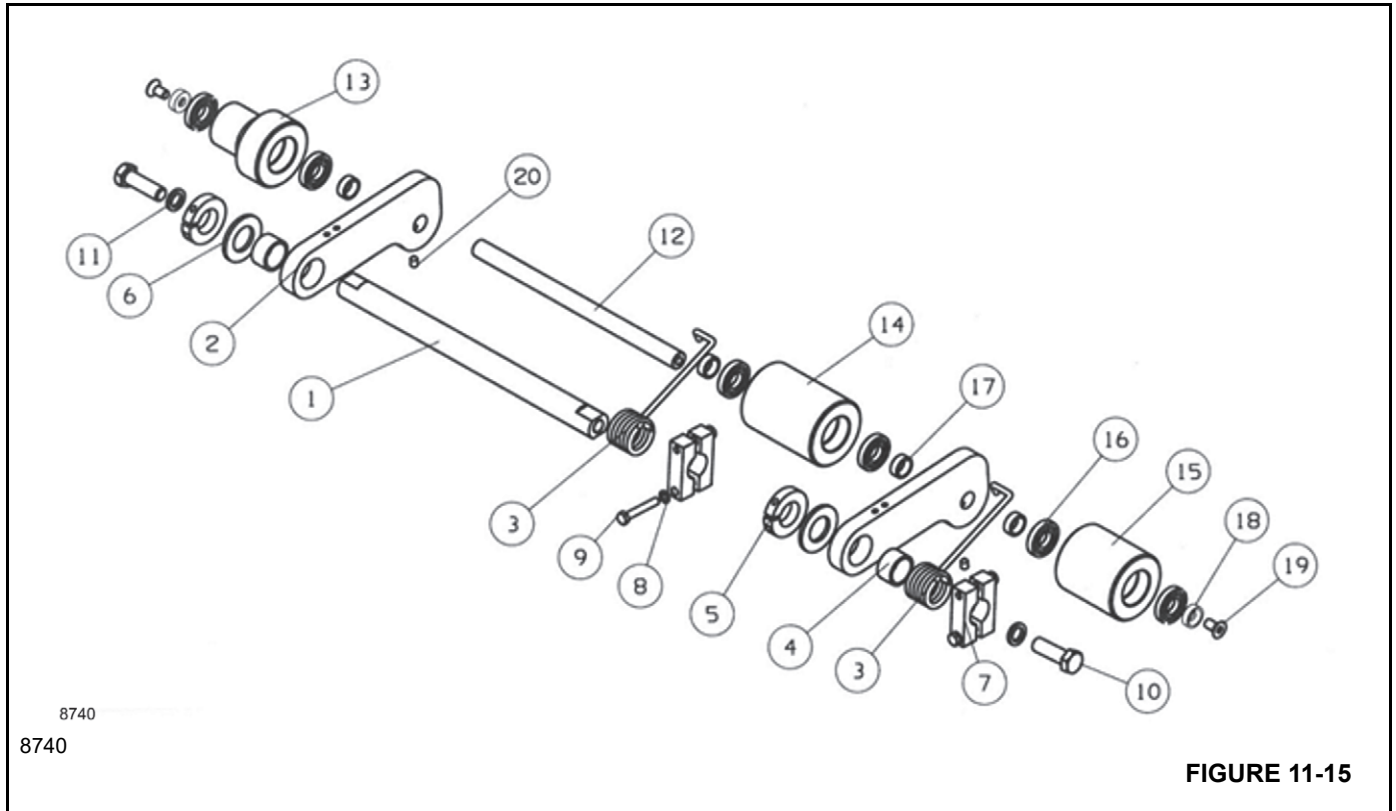

FIGURE 11-15
**NOTE:** See Figure 11-15 for item number identification.
1. Remove the screws (item 19) and covers (item 18) from each end of the shaft (item 12).
2. Mark the position of the retainers (item 5) and clamps (item 7).
3. Remove the rollers (items 13 and 15) from the shaft (item 12). The bearings (item 16) can be removed from
1. Inspect the bearings (item 16) and bushings (item 4) for wear. Replace if necessary.
2. Loosely assemble the clamps (item 7) with the cap screws and washers (items 8 and 9). Slide the retainers (item 5), washers (item 6), levers with bushings (item 2), and springs (item 3) onto the shaft (item 1). Place these items in the order shown on the exploded view. Do not tighten the cap screws at this time.
3. Slide the shaft (item 12) through both levers (item 2) placing the roller (item 14) and spacers (item 17) between the two levers (item 2).
4. Place the rollers (items 13 and 15) along with the spacers (item 17) onto the ends of the shaft (item 12). Orient the rollers (items 13 and 15) according to the exploded view. Using the screw and covers (items 18 and 19) retain the rollers (item 15) on the shaft (item 12). Torque the fasteners to 69-73 Nm (51-54 ft-lbs).